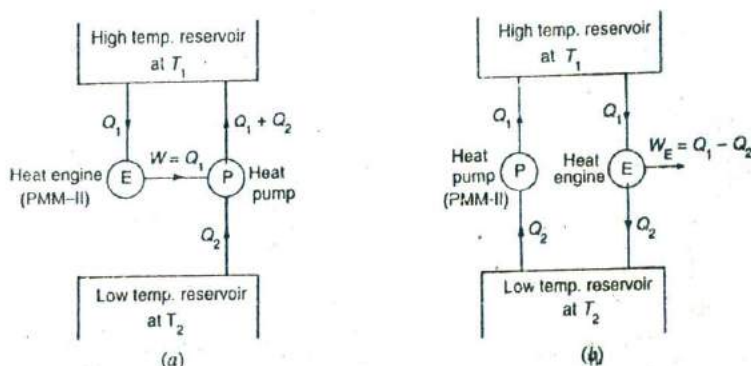

Fig. 1.13. Equivalence of Kelvin-Planck and Clausius statements.
1. Consider a system as shown in Fig. 1.13 (a). In this system, a heat engine having 100 percent thermal efficiency (*i.e.* PMM-II) is violating the Kelvin-Planck statement as it converts the heat energy (Q_1) from a single high temperature reservoir at T_1 , into an equivalent amount of work (*i.e.* $W = Q_1$). This work output of the heat engine can be used to drive a heat pump (or refrigerator) which receives an amount of heat Q_2 from a low temperature reservoir at T_2 and rejects an amount of heat ($Q_1 + Q_2$) to a high temperature reservoir at T_1 . If the combination of a heat engine and a heat pump (or refrigerator) is considered as a single system, as shown in Fig. 1.13 (a), then the result is a device that operates in a cycle and has no effect on the surroundings other than the transfer of heat Q_2 from a low temperature reservoir to a high temperature reservoir, thus violating the Clausius statement. Hence, a violation of Kelvin-Planck statement leads to a violation of Clausius statement.
2. Consider a system as shown in Fig. 1.13 (b). In this system, a heat pump or refrigerator (*i.e.* PMM-II) is violating the Clausius statement as it transfers heat from a low temperature reservoir at T_2 to a high temperature reservoir at T_1 without any expenditure of work. Now let a heat engine, operating between the same heat reservoirs, receives an amount of heat Q_1 (as discharged by the heat pump) from the high temperature reservoir at T_1 , does work ($W_E = Q_1 - Q_2$) and rejects an amount of heat Q_2 to the low temperature reservoir at T_2 . If the combination of the heat pump (or refrigerator) and the heat engine is considered as a single system, as shown in Fig. 1.13 (b), then the result is a device that operates in a cycle whose sole effect is to remove heat at the rate of $(Q_1 - Q_2)$ and convert it completely into an equivalent amount of work, thus violating the Kelvin-Planck statement. Hence, a violation of Clausius statement leads to a violation of Kelvin-Planck statement.